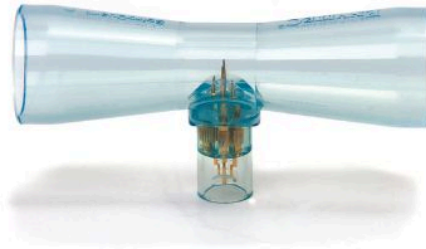

Figure 2: Ventilator Flow Sensor ([Opens in a new window](https://www.intersurgical.com)
- **Working Principle:** Ventilator Flow Sensors often utilize either differential pressure measurements or thermal principles to determine the flow rate of gases entering and exiting the patient's airways (Fig. 2).
pressure sensed by the tube provides valuable information about the fluid's velocity (Fig. 2).